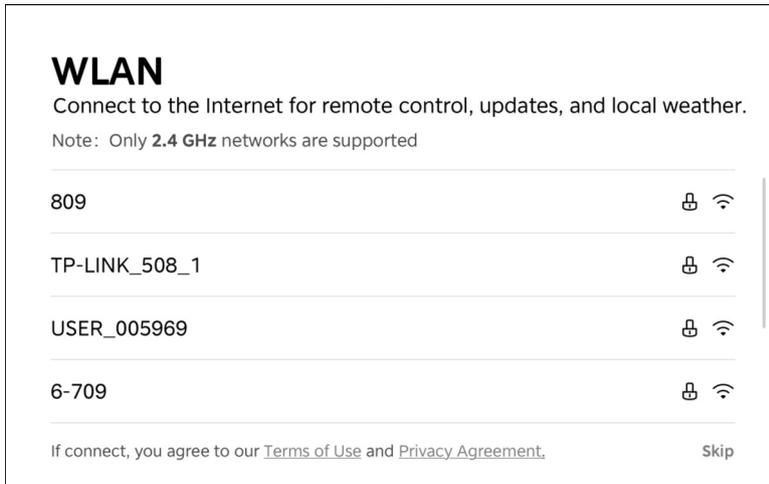

Fig 1.10
- After completing all setup steps, the Touch controller will enter the main page. Set up the wireless network information and enter the password (refer to Fig 1.10).